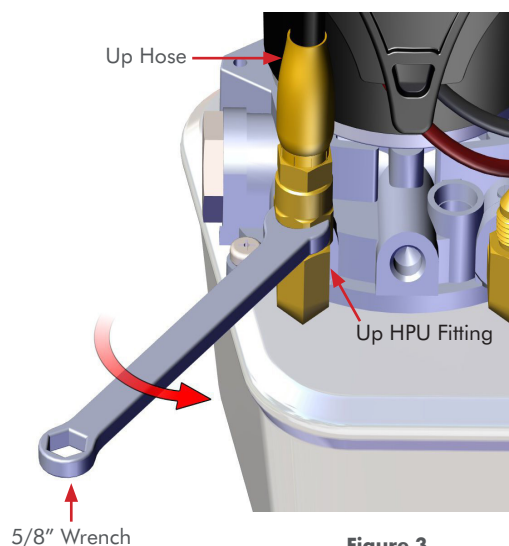

Figure 3
**STEP 4** Remove the defective **UP Hose** from the **UP (Left) HPU Fitting** using a **5/8" Wrench**. **FIG 3**